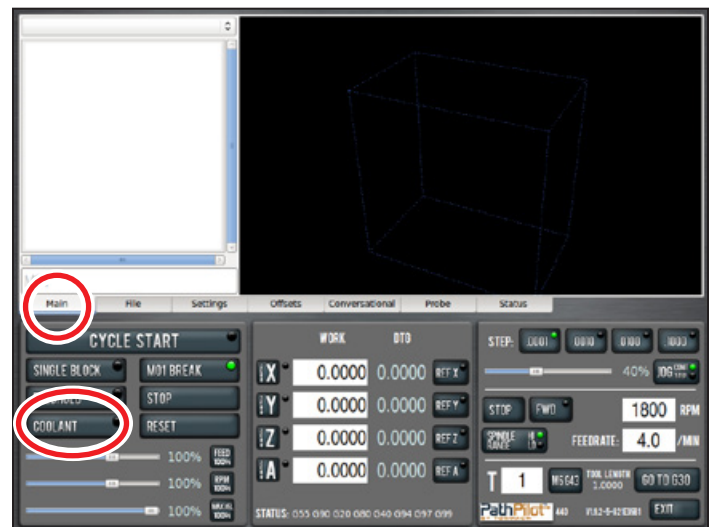

Figure 15
14. On the *Main* tab in the PathPilot® interface, click *Coolant* (see **Figure 15**); test coolant control to ensure the PathPilot controller powers the outlet on and off when the *Coolant* button is toggled. If necessary, re-check wire connections and re-test.